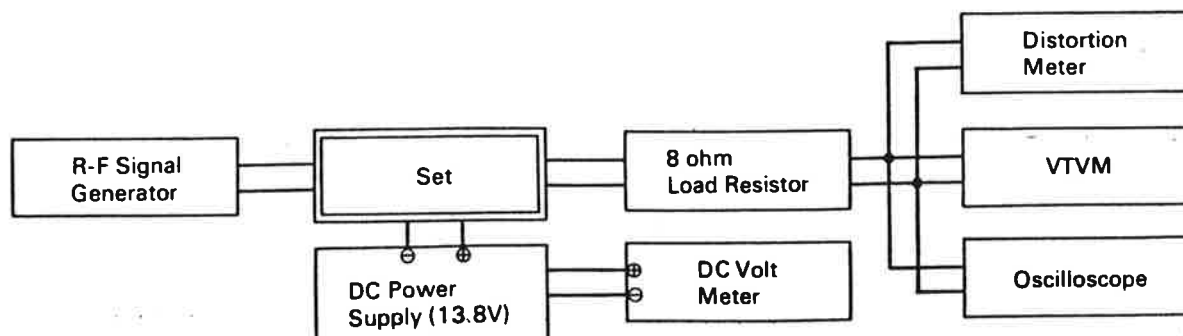

Figure 23
- 4) Connection of test equipment is shown in figure 23.